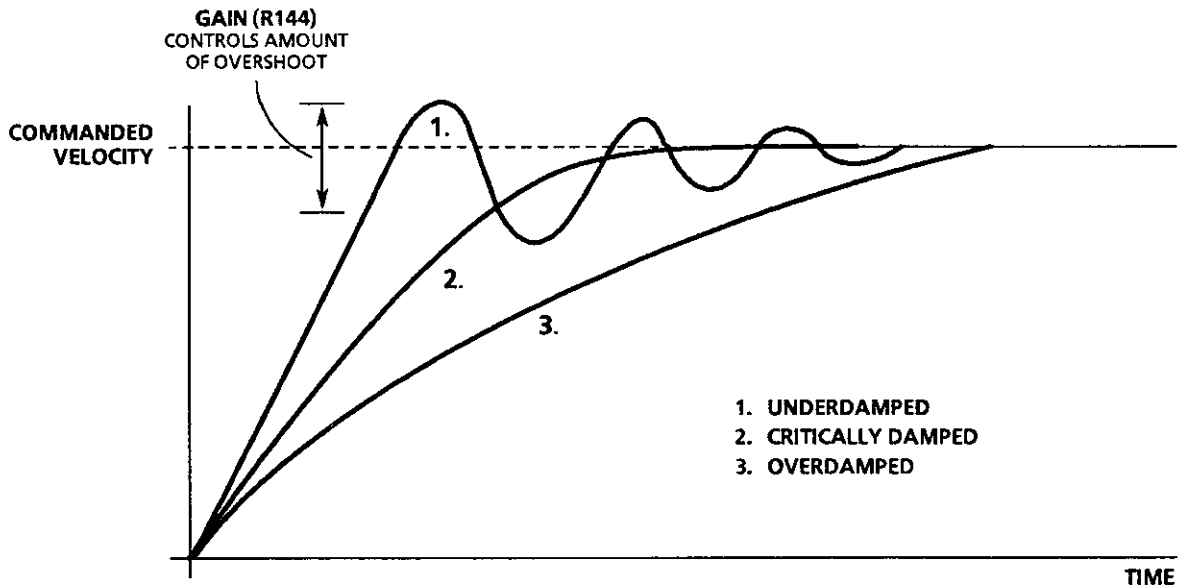

Figure 7.2 – Velocity Response Profiles
- 19. Adjust the Velocity GAIN potentiometer (R144) and observe the velocity response (at TB2-7) profile at various levels of step input speed commands. Response curve #1 in Figure 7.2 with a single velocity overshoot of 20-30% on accel and decel is optimal on a point to point positioning or velocity controlled system. Response curve #2 is desirable on a contouring or metal removing system.